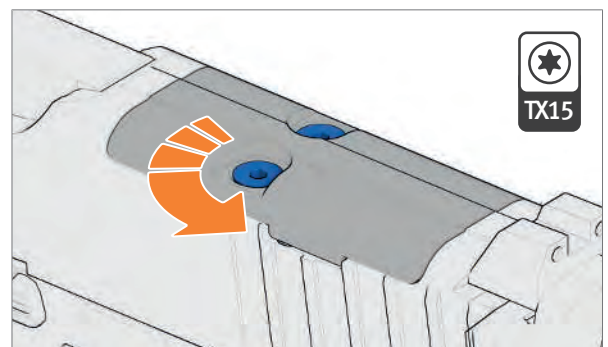

Fig. 36: Loosen screws
2. Loosen screws and remove them (Fig. 36).